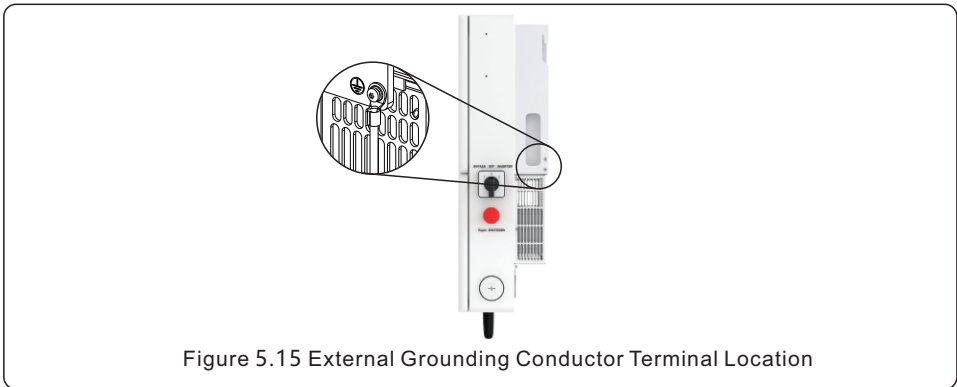

Figure 5.15 External Grounding Conductor Terminal Location
2. Remove the red jumper from the RSD\_IN and RSD\_OUT terminals (see Figure 5.15)